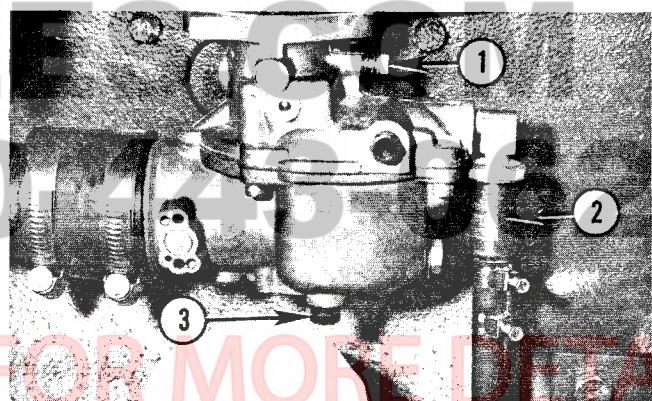

Fig. 41B — Carburetor Adjustment
2. Adjust idle mixture screw, No. 1, Fig. 41B, until engine runs smooth at highest engine rpm.
Close fuel shut-off valve, No. 1, Fig. 38, at fuel tank. Remove drain plug, No. 3, Fig. 41B, from bottom of carburetor bowl, allowing fuel and sediment to drain from carburetor. After carburetor has drained, replace and tighten drain plug securely; open fuel shut-off valve.
The fuel system has an in-line fuel filter, No. 2, Fig. 41B, between tank and carburetor.